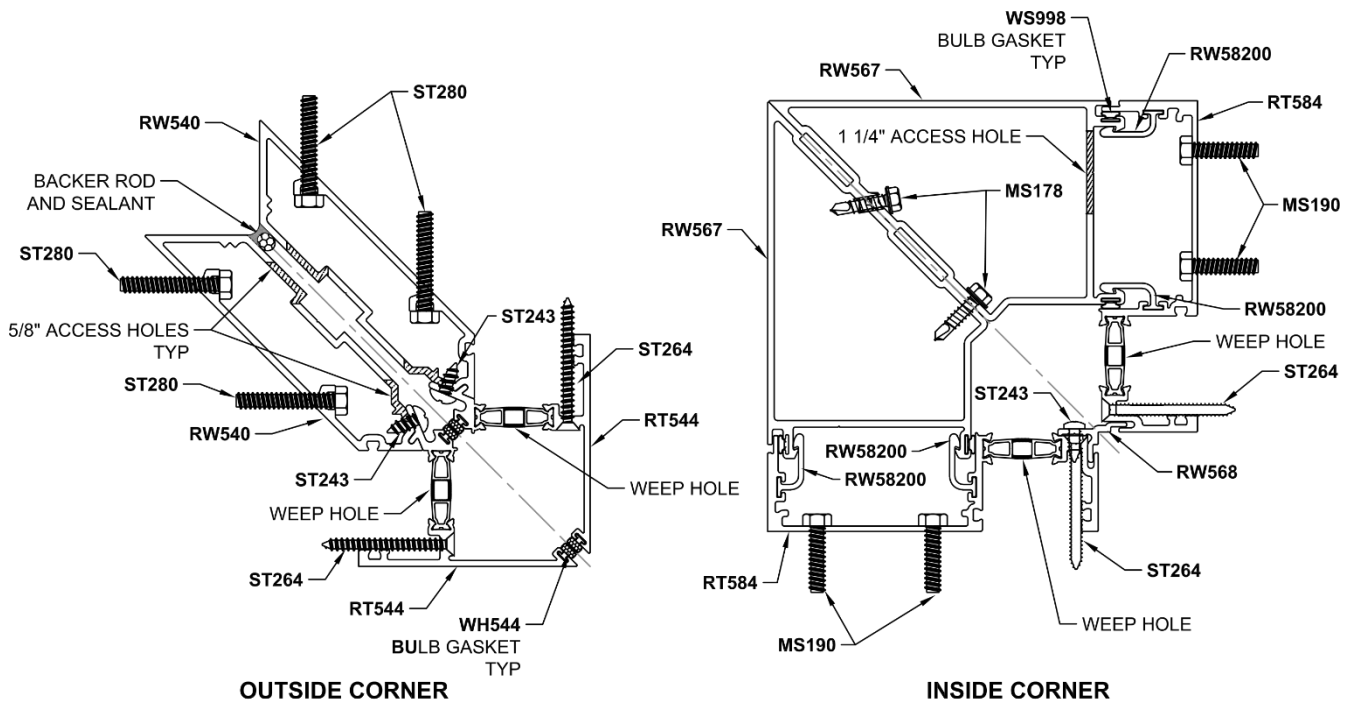

Figure 79: 90° Corners
- 21.2 For 90° corners, reference *Figure 79* for connection detail and fastener information.